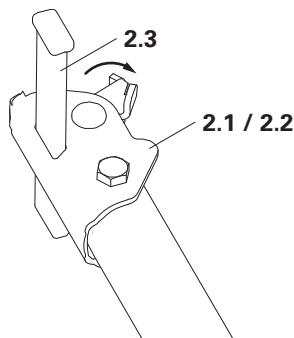

Fig. A2.04
- Open wedge connection C (silver) (2.1) or D (yellow or black) (2.2). The wedge (2.3) is at the top. (Fig. A2.04)